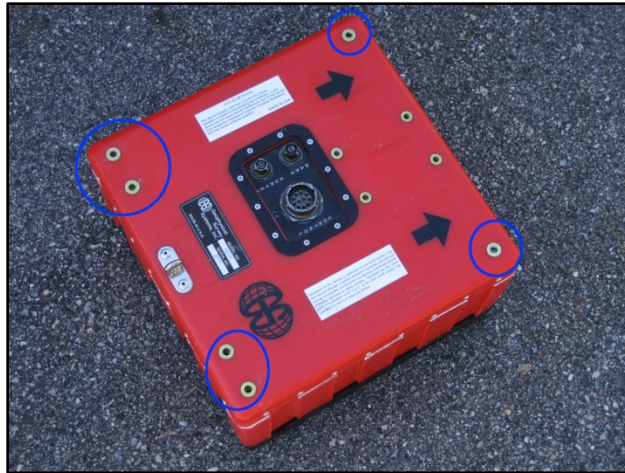

Figure 1: Antenna attachment points in blue circles
- a)** Remove the black metal “shark’s fin” bracket on top of the antenna housing and identify the 6 attachment points on the top of the antenna (Figure 1).